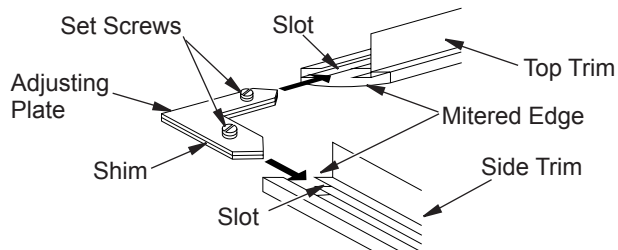

Figure 11 - Assembling Metal Trim
3. Align shim under adjusting plate as shown in Figure 11.
4. Slide one end of adjusting plate/shim in slot on mitered edge of top trim (see Figure 11).
5. Slide other end of adjusting plate/shim in slot on mitered edge of side trim (see Figure 11).